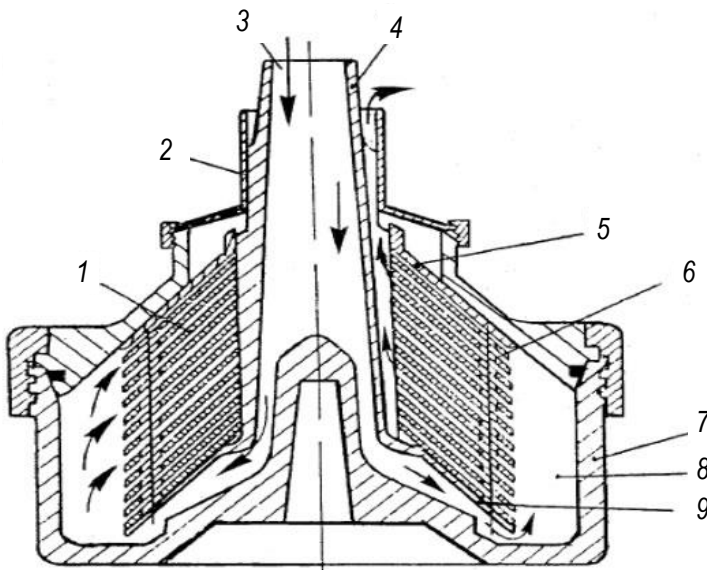

Fig. 1 Diagram of the drum clarifier
3. Fig. 1 shows a diagram of a drum clarifier. Your task is to: a) sign the names of the components of the drum clarifier, indicated by numbers, using the words and phrases given below, b) explain the principle of operation of the drum clarifier: